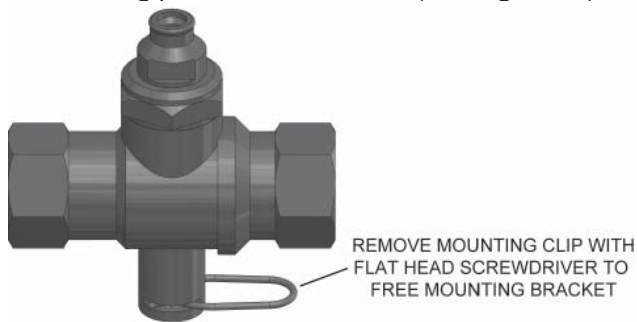

Figure 24.
3. Remove the front cover (D) of the solar station.
4. Remove the retainer clips behind the isolation ball valves (J, Q) with a flat head screw driver to free the mounting plate from the station (see Figure 24).